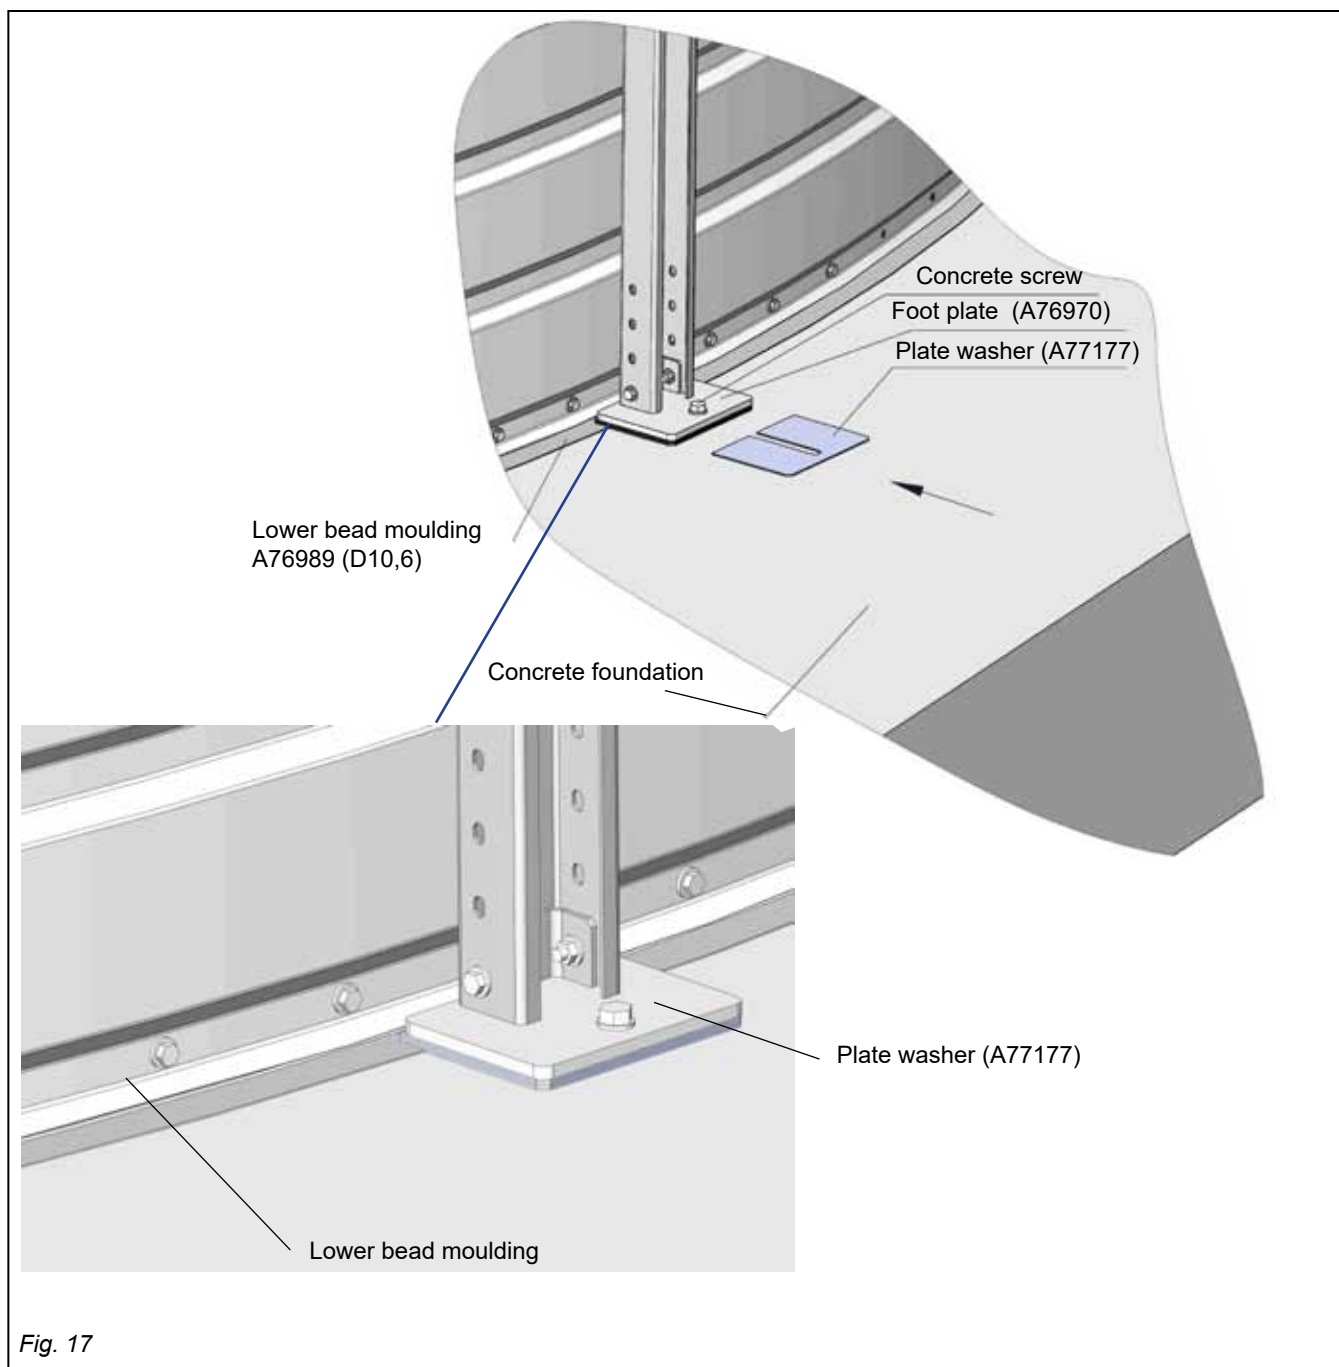

Fig. 17
- The support plate should be supported over its entire surface area (see figure 17)